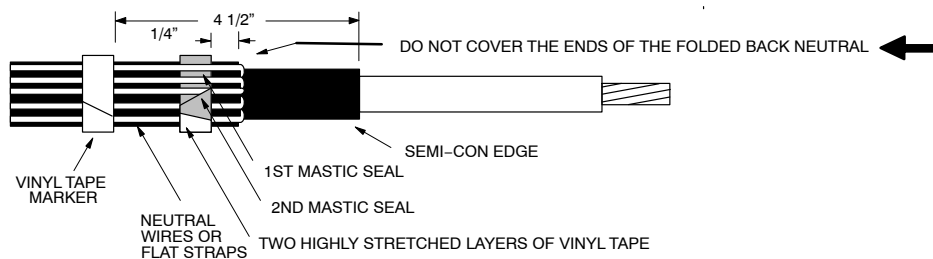

FIGURE 3
4. Bend the neutral wires (flat straps) back over applied mastic and secure to cable jacket 4-1/2" from the edge of the semi-con. Use vinyl tape to secure the wires (straps). This tape will be used to position the terminator, so the location is critical. See Figure 3.
5. Select the second mastic strip from the kit and remove the white release liners. Apply a second single wrap of mastic over the neutral wires (straps) and the previously applied mastic strip. Cut off excess. See Figure 3.
Compress the neutral wires (straps) into the mastic by over-wrapping the strips with two highly stretched layers of vinyl tape. Be sure to cover all exposed mastic. See Figure 3.